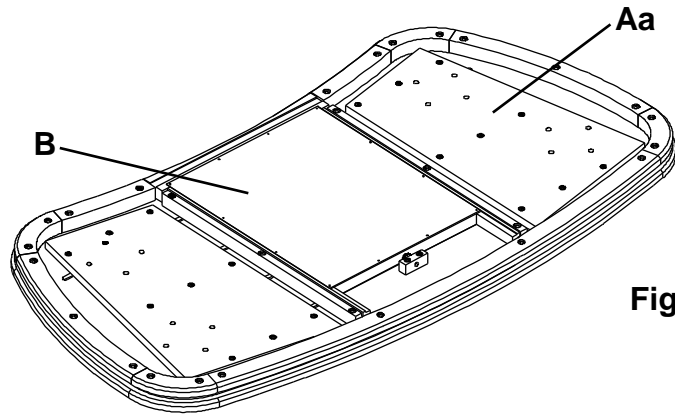

Fig. 1
1. Turn the Top Assembly (Aa) upside down on a clean, protected surface. Remove the Drawer (B) and place it off to the side. See Figure 1.